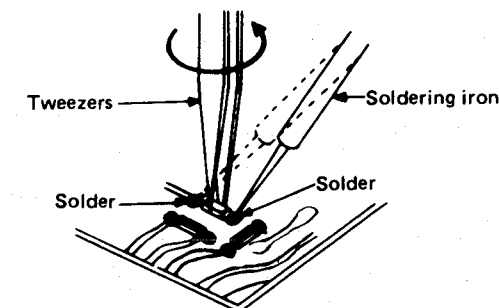

Fig. 6
2. Touch the soldering iron to the end of the chip as shown in Fig. 6, then turn the tweezers in the direction of the arrow.